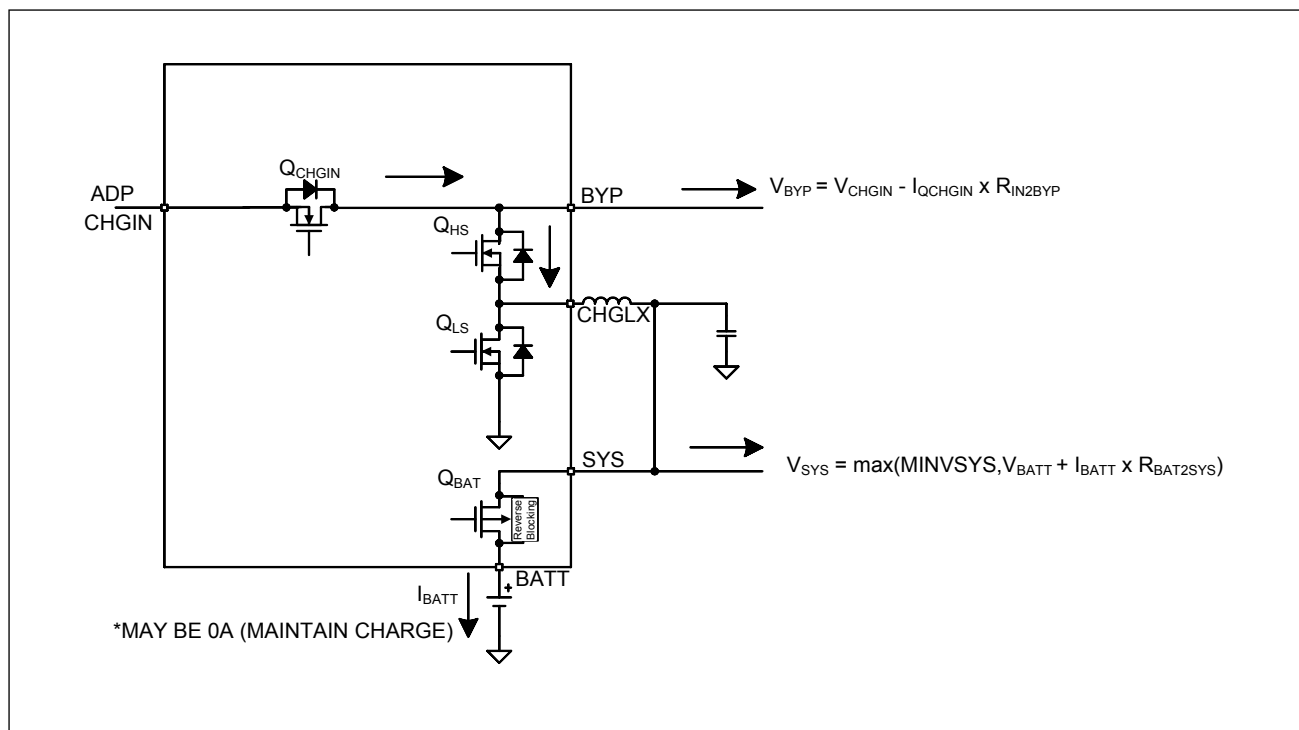

Figure 9. Charge-Buck
6. CHARGE-BUCK, MODE = 0x0D: Adapter is detected within the input voltage operating range (Q_{CHGIN} = on). Battery is connected in charge mode (Q_{BAT} = on) and charger is operating in buck mode, see Figure 9.